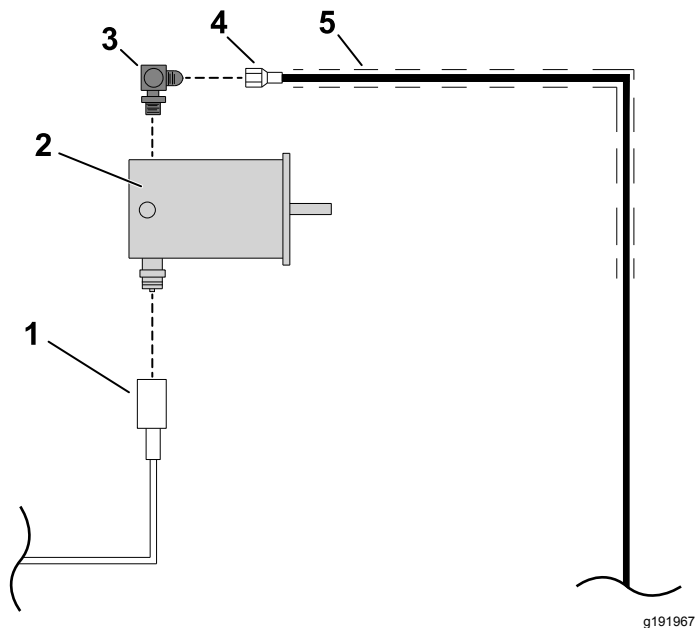

Figure 15
1. Install the hose cover 147 cm (58 inches) to the hydraulic hose A—254 cm (100 inches, 8 FJ to 6 MP) as shown in Figure 15.
2. Install one end of the 90° fitting (5/8 x 1/2 inch) to the hydraulic motor and the other end to the hydraulic hose A—254 cm (100 inches, 8 FJ to 6 MP) as shown in Figure 15.
3. Connect the hydraulic hose included with the core harvester to the IN port on the conveyor motor (Figure 15).